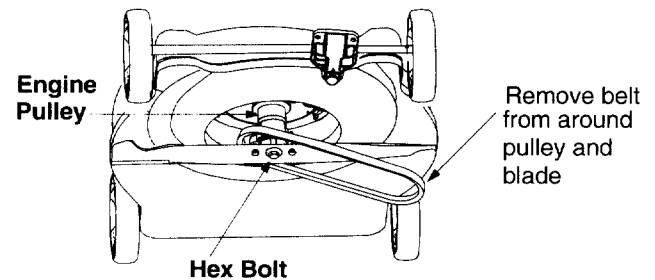

Figure 19
- Remove the belt from the engine pulley and around the blade. See Figure 19.